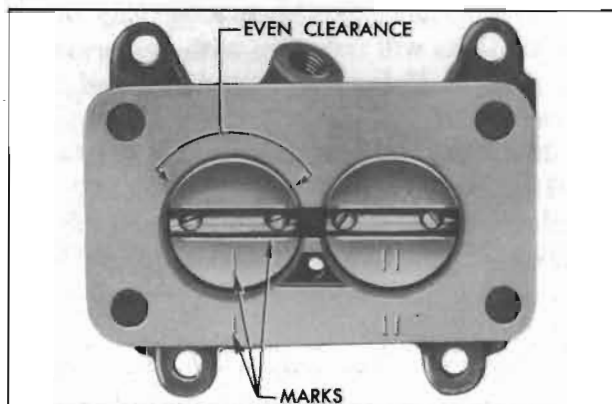

Figure 3-77—Correct Position of Throttle Valves
with the scribe marks previously made along edges of valve stem, then tighten screws. See figure 3-77.
4. With valves held in closed position, hold throttle body to the light and check for even clearance between each valve and the barrel. See figure 3-77. If clearance is excessive at any point, shift valve in stem until it fits the barrel with the least amount of light showing around the edge, then tighten screws firmly and recheck clearance.